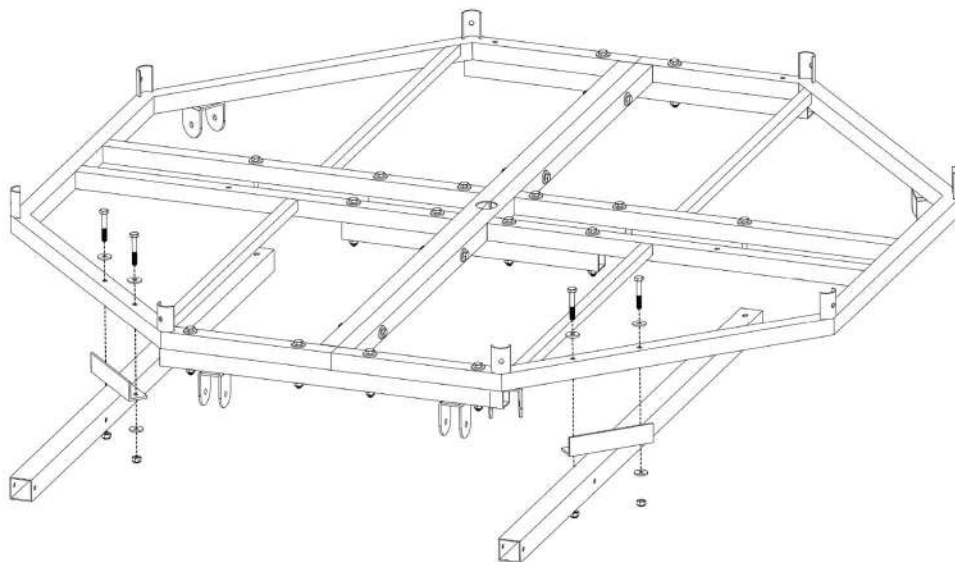

Figure 4.
Step 4. Attach the hand rail supports to the rear (ladder side) of the platform using four $\frac{1}{4}$ " x 1- $\frac{3}{4}$ " bolts and two $\frac{1}{4}$ " x 3- $\frac{7}{8}$ " bolts, twelve washers and 6 nuts as seen in Figure 4. You can tighten all the nuts.